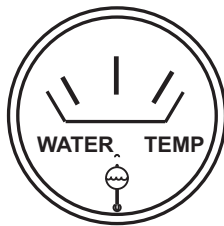

Figure 55. Coolant Temperature Gauge
15. The *coolant temperature gauge* (Figure 55) will indicate the coolant temperature. Under normal operating conditions the coolant temperature should be between 165 and 215 degrees Fahrenheit (**Green Zone**).